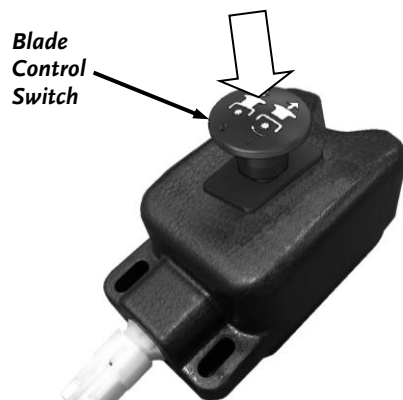

Figure 14a (Pro and Pro XL)
4. Make sure the Blade Control Switch is pushed down to the disengaged position (Figure 14a and 14b).
1. Ensure the Blade Control Switch is down (Figure 14a and 14b).
1. Disengage the Blades by pushing the Blade Control Switch down (**Figure 14a and 14b**).